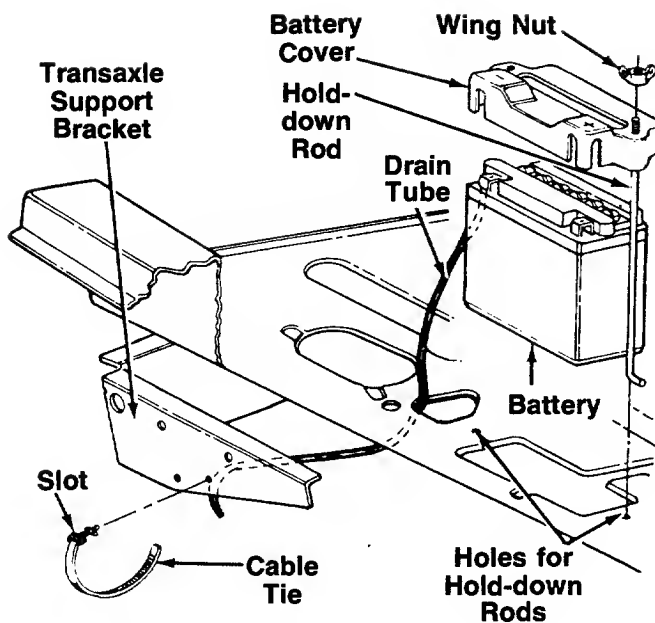

FIGURE 13.
5. Secure the battery in place with battery cover and hold-down rods. Secure with two wing nuts. See figure 13.
6. Route the clear plastic drain tube down through the hole in the frame, next to the engine drain plug, shown in figure 13.